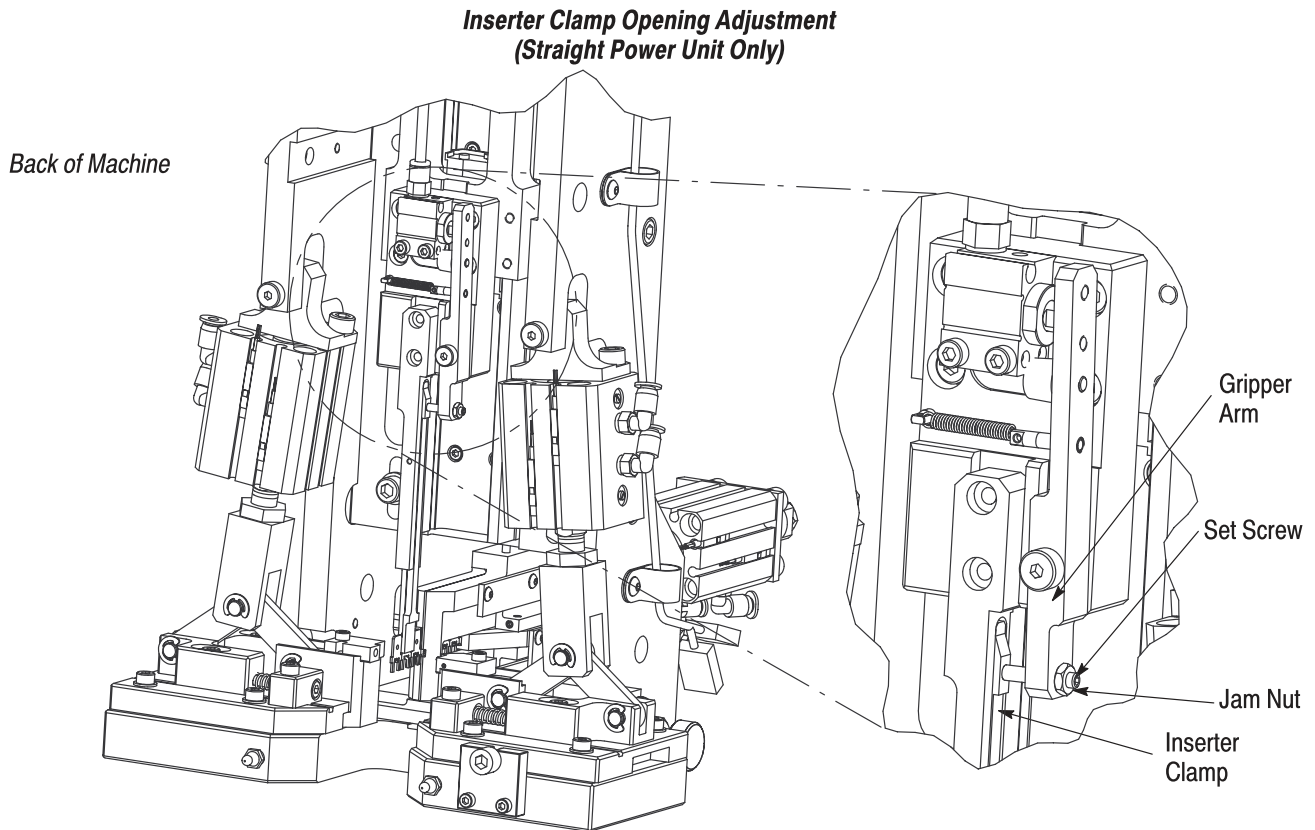

Figure 16
A. Straight Power Unit (Refer to Figure 16)